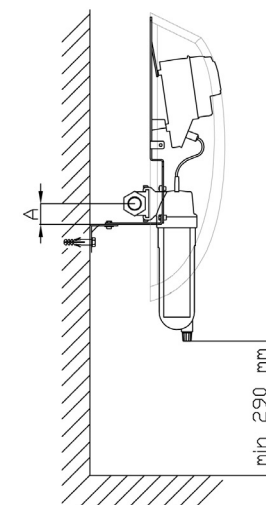

Fig. 1
- Remove the device cladding after releasing the two locking screws (knurled screws) on the side of the device (see Fig. 1 und 2).